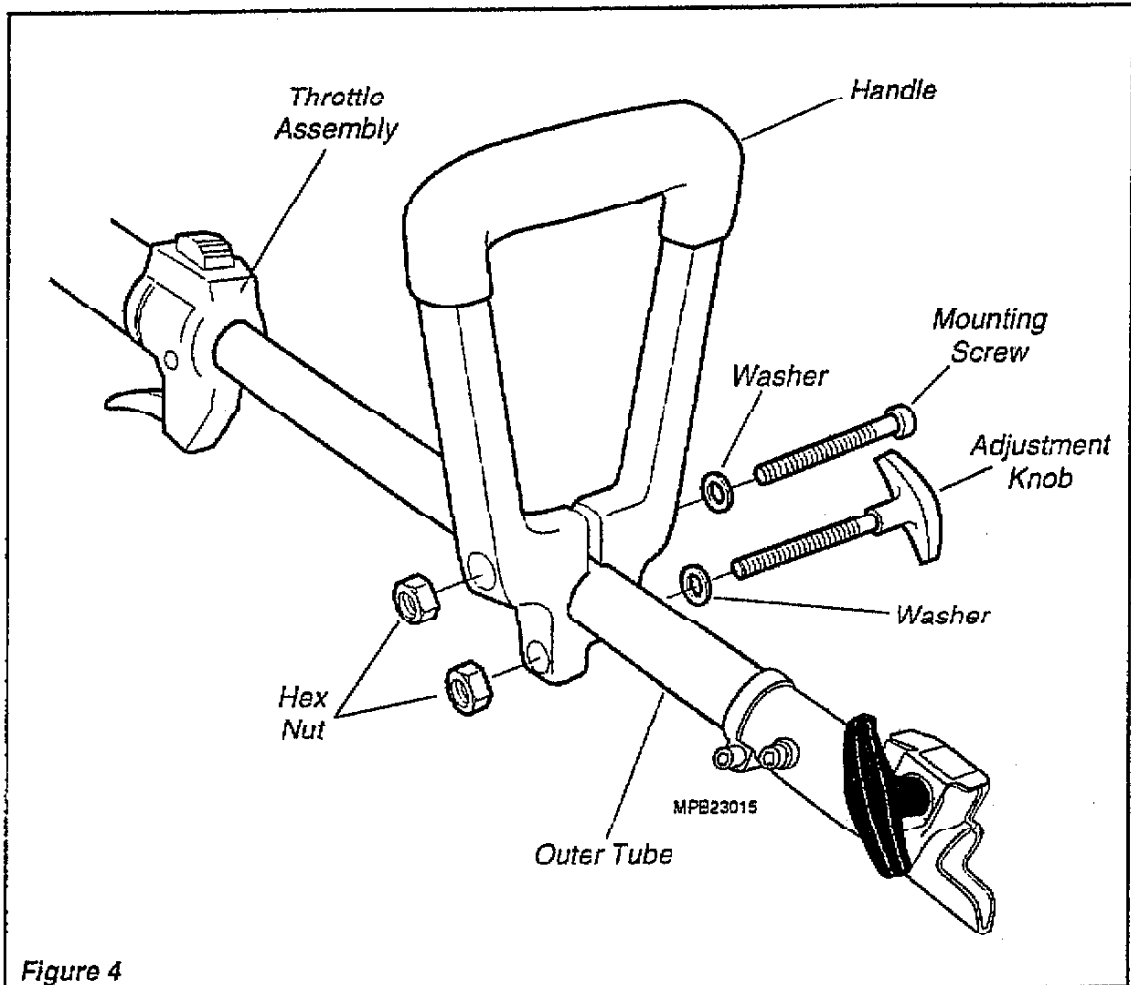

Figure 4
5. Locate the handle at the best position for operator comfort (usually about 10 inches ahead of the throttle lever), and secure it by tightening the adjustment knob at the handle base. See Figure 4.